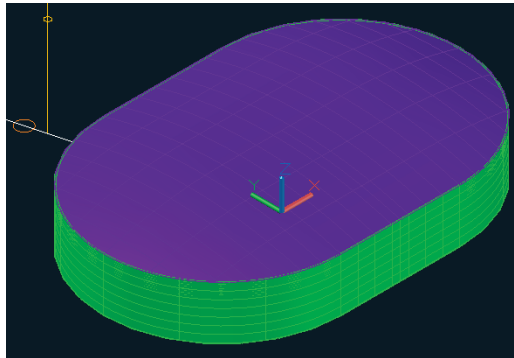

FIGURE 17.6 Sweeping the arena roof
4. Press the spacebar to repeat the SWEEP command. Select the arena roof profile and press Enter. Select the arena roof sweep path. Figure 17.6 shows the result.